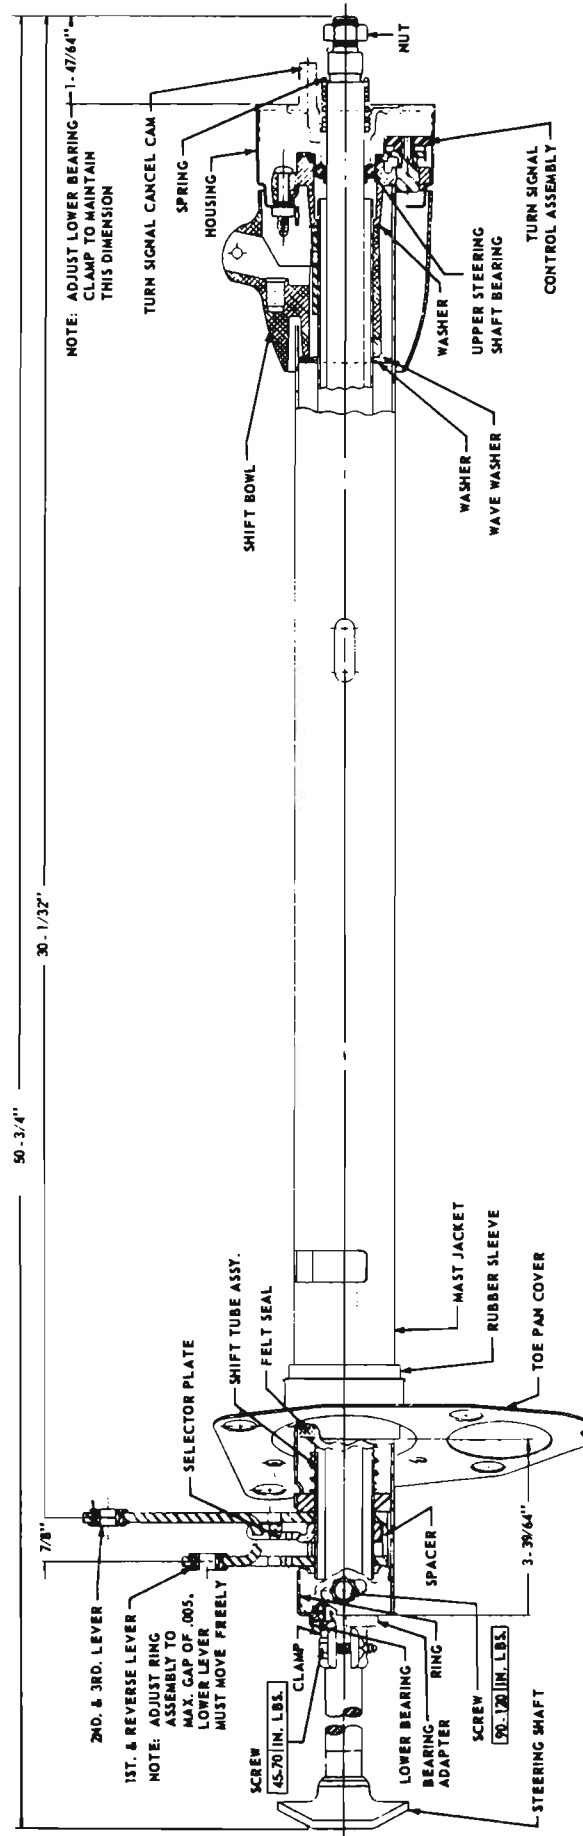

Figure 8-77—Mast Jacket and Transmission Control Shaft Assembly - Three Speed Synchromesh Transmission
**NOTE:** If the clamp on the steering shaft was loosened, readjust dimension of upper end of shaft to cover as shown in Figure 8-77.
2. Adjust ring at lower portion of mast jacket for maximum gap of .005 inch. Lower lever must move freely. See Figure 8-77.